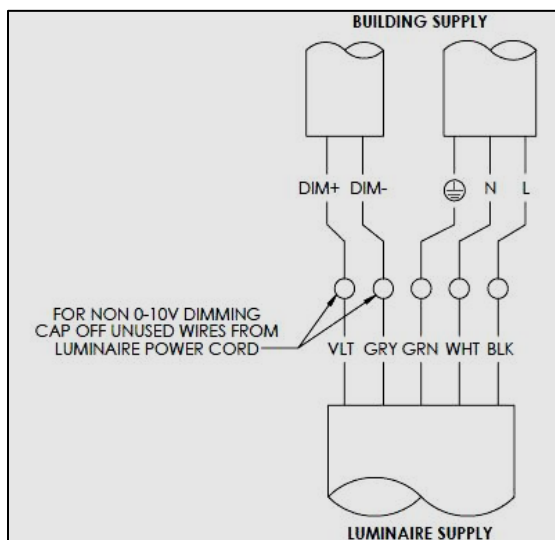

FIG. 20 – WIRE DIAGRAM FOR ALL MODELS
17. See WIRE DIAGRAM as shown below in FIG. 20 and WIRE LABEL TABLE below for wire connections. Strip outer sheathing of cord no less than 0.75" above strain relief to reveal individual conductors and make all wire connections in accordance with the national electrical code and all applicable local and state codes.